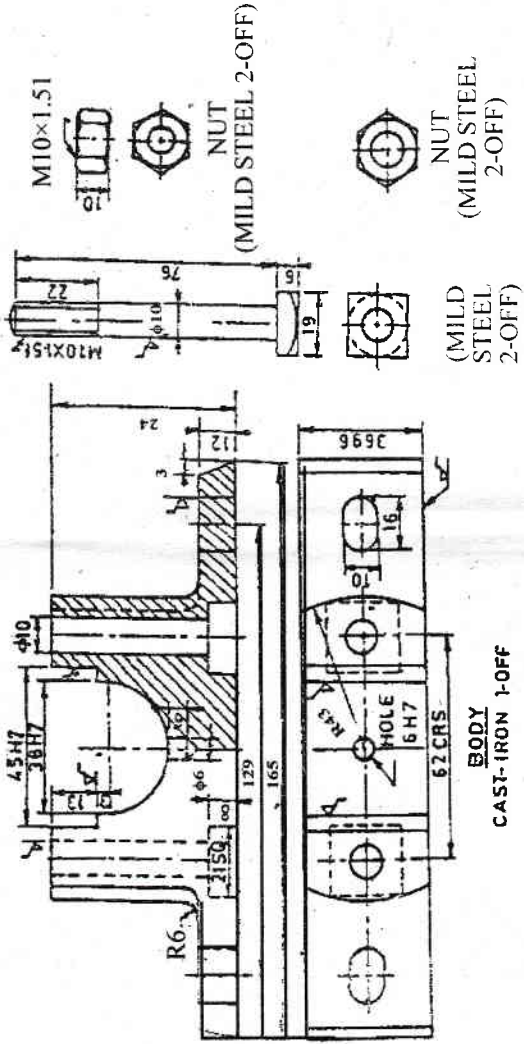

Fig. 2
7. Assemble together the parts of plummer block shown in fig. 2 and draw the following views. 14+12+4=30